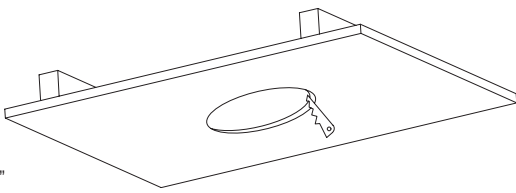

FIG. 2
2. Pull building supply wires through ceiling cutout and open fixture junction box door (See **FIG. 2**). Remove desired housing knockout and feed building wires into housing using appropriate connector.